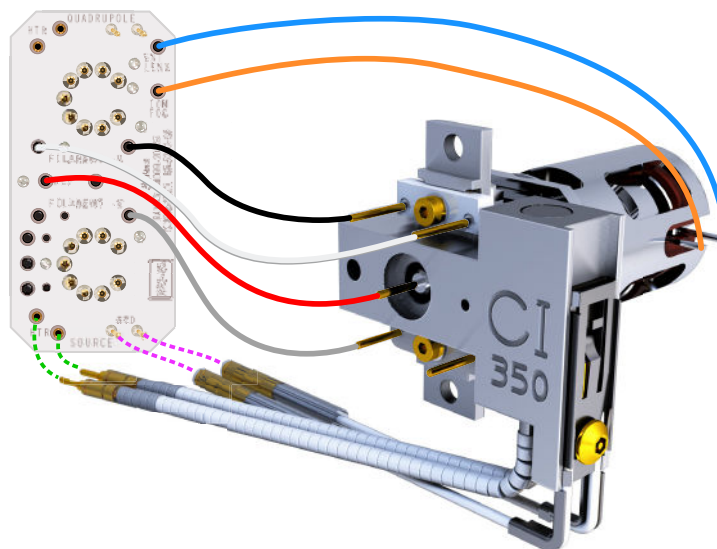

Figure 73. Wiring between the CSB and the source
- 1 Use tweezers or pliers to connect or disconnect the ceramic board wire leads (red, white, black, and gray) at the source connectors. (See **Figure 73.**)